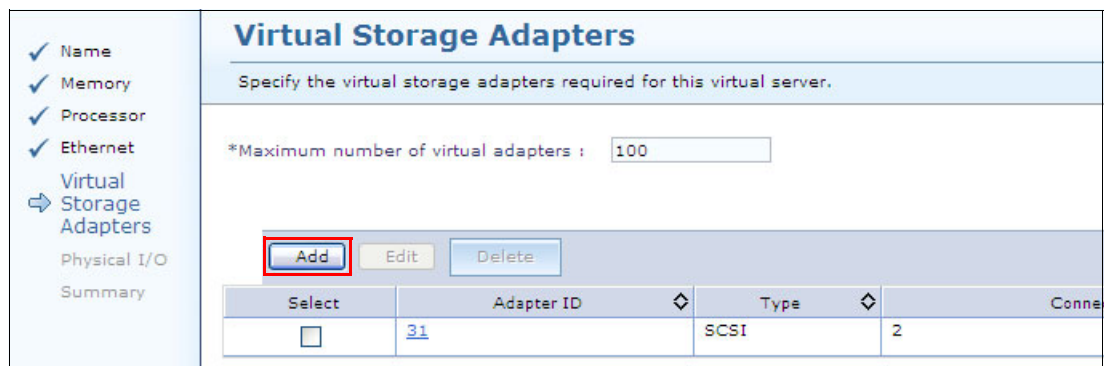

Figure 10-15 Creating the VIOS profile: Virtual Storage Adapters
13. You can see the newly created virtual SCSI adapter in the Virtual Storage Adapters pane, as shown in Figure 10-15. If you need to create more virtual storage adapters, click **Add**.